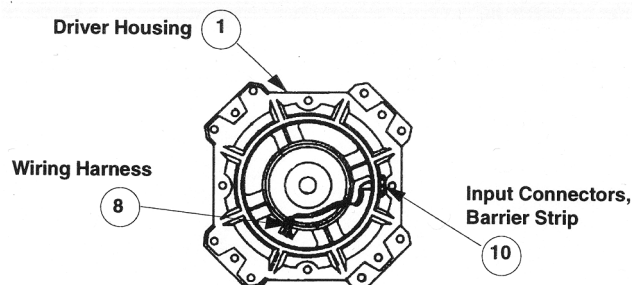

Figure 1. Wiring Harness and Input Connectors
Connect a signal generator to a power amplifier. Adjust the generator frequency to **10 Hz** and the amplifier output to **5 Vrms**. Connect the amplifier output to the driver's input terminals. The input terminals are molded in the driver housing near the barrier strip. **Refer to Figure 1.**
NOTE: Numbers in parentheses represent the item callouts in **Figures 1 and 2**.
1. Driver Removal (Refer to Figures 1 and 2)
2. Driver Replacement (Refer to Figures 1 and 2)